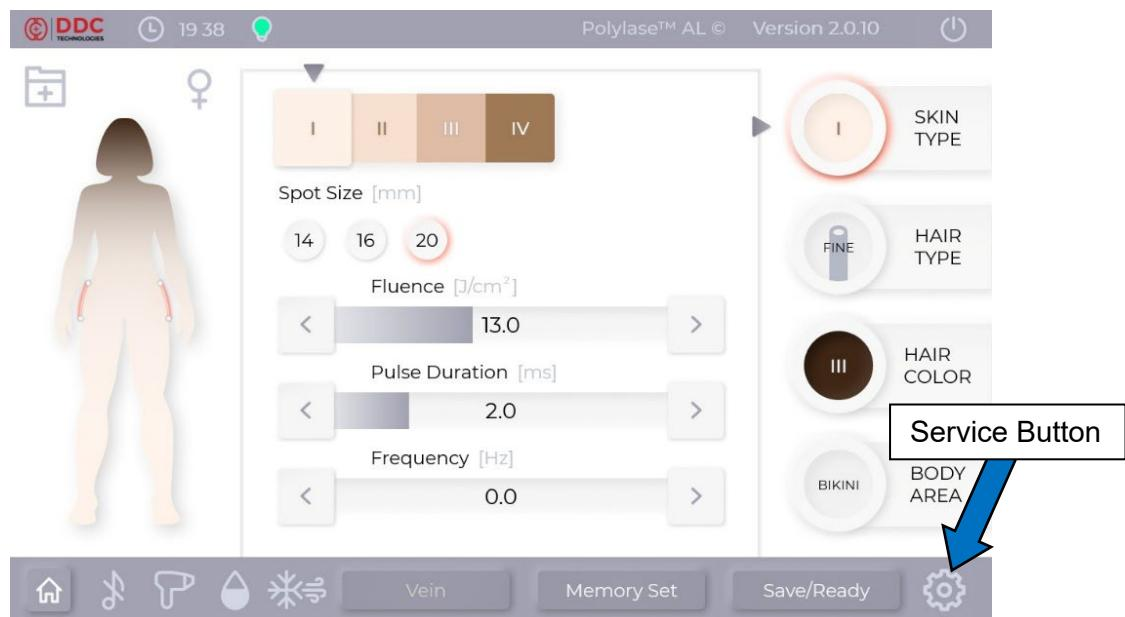

Figure 5-24. Service Button
7. From the Autocalibration screen (Figure 5-24), select “Start Calibration” and then press “OK” on the dialogue box warning about laser radiation danger (see also step 6 and make sure you comply with requirements), and then the Laser Output Autocalibration Procedure will begin.